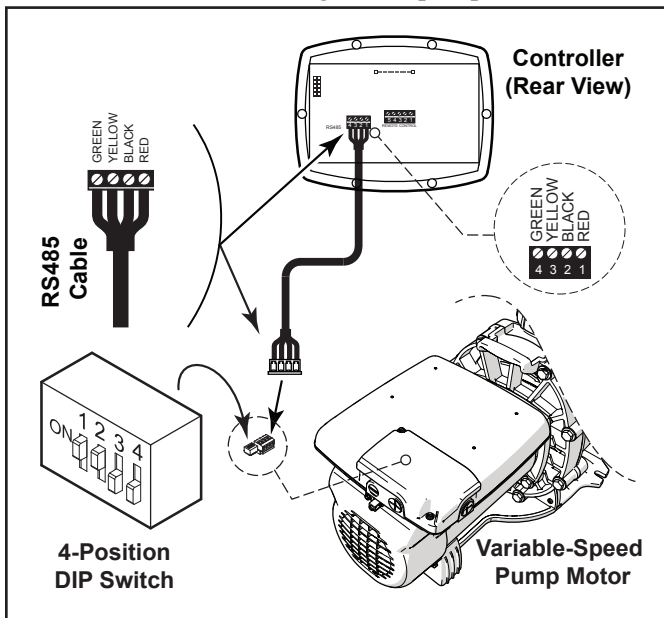

Figure 4. Wiring the Controller to the Variable Speed Pump
6. Attach the four (4) wires in the RS-485 cable to the RS-485 connector. Make sure the colors match the positions on the connector. See "*Figure 4. Wiring the Controller to the Variable Speed Pump*"
8. Set the DIP switch settings for the pump controller with the 1 and 2 in the ON position and 3 and 4 in the OFF position. See "*Figure 4. Wiring the Controller to the Variable Speed Pump*".
For the ePump™, the VS-FHP2.0 pump and the VSPHP27, the 4-position or 5-position dip switch is located at the rear of the pump, as shown in "*Figure 4. Wiring the Controller to the Variable Speed Pump*"